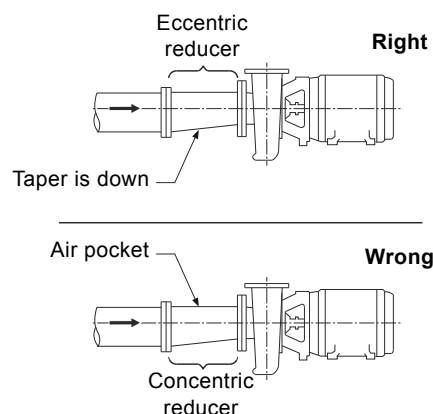

Fig. 3 Inlet piping
- Use an eccentric reducer, with the eccentric side down fig. 3 when reducing the pipe diameter to the diameter of suction opening.